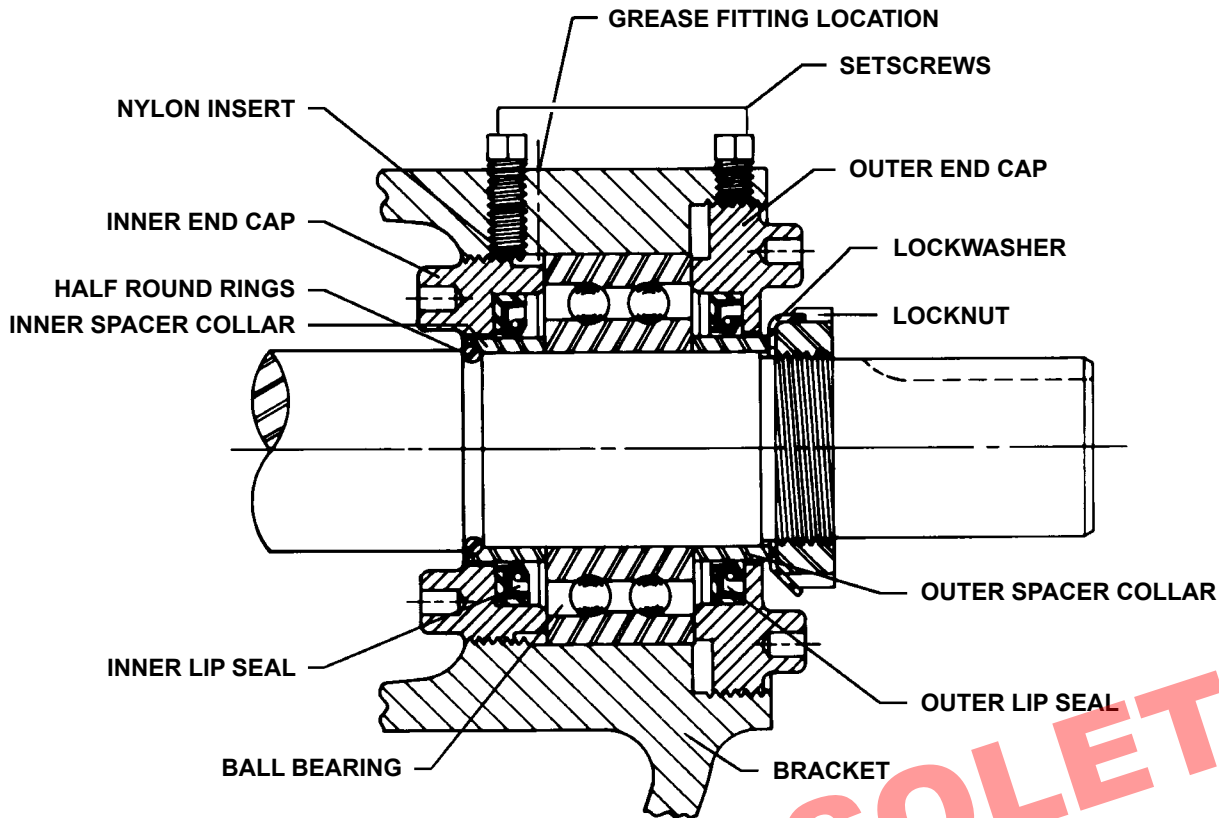

FIGURE 6
7. Loosen setscrews. Two for G, H and HL size pumps, four for all other sizes. With spanner wrench, remove both end caps and lip seals. Remove ball bearing and spacer collars. Refer to Figure 6.
Place pair of half round rings on shaft and slide inner bearing spacer collar over half round rings to lock them in place. There is no pair of half round rings on H, HL, Q and M size pumps. **Refer to Figure 6, page 6.**
- Press lip seal, lip facing end of shaft, in inner end cap and insert end cap through shaft end of bracket. Turn end cap clockwise, looking at shaft end, until it engages threads. End cap spanner wrench holes must be facing rotor. Turn end cap with spanner wrench until it projects slightly from opening on side of bracket. End cap must not be turned so far that lip seal drops off end of spacer collar on shaft or end cap becomes disengaged from threads. **Refer to Figure 6, page 6.**
- Press lip seal, lip facing end of shaft, in outer end cap and insert end cap in bracket. Turn end cap in bracket until it is tight against bearing. **Refer to Figure 6, page 6.**